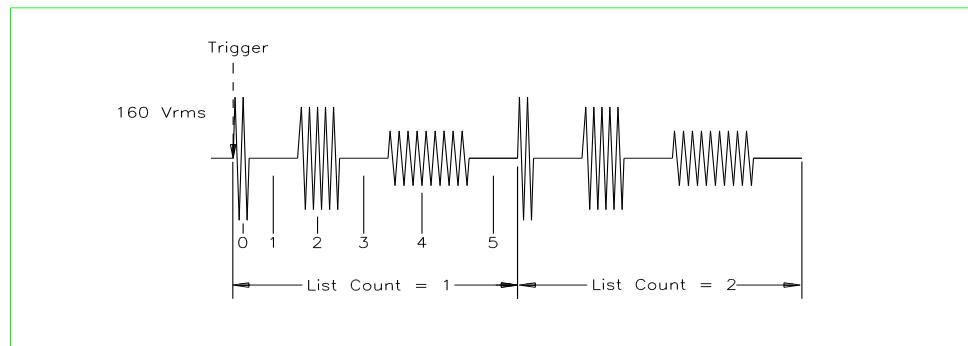

Figure 4-41: List Transients
13. Move the cursor to the END DELAY field and enter 0.067 for a interval delay of 67 ms. Notice that we effectively combined steps 0 and 1 from Figure 4-41 into a single list event.
21. Move the cursor to the START field and press the ENTER key. The transient program you just created will execute two times. If you have an oscilloscope connected to the output, you may be able to see the output voltage change per Figure 4-41.